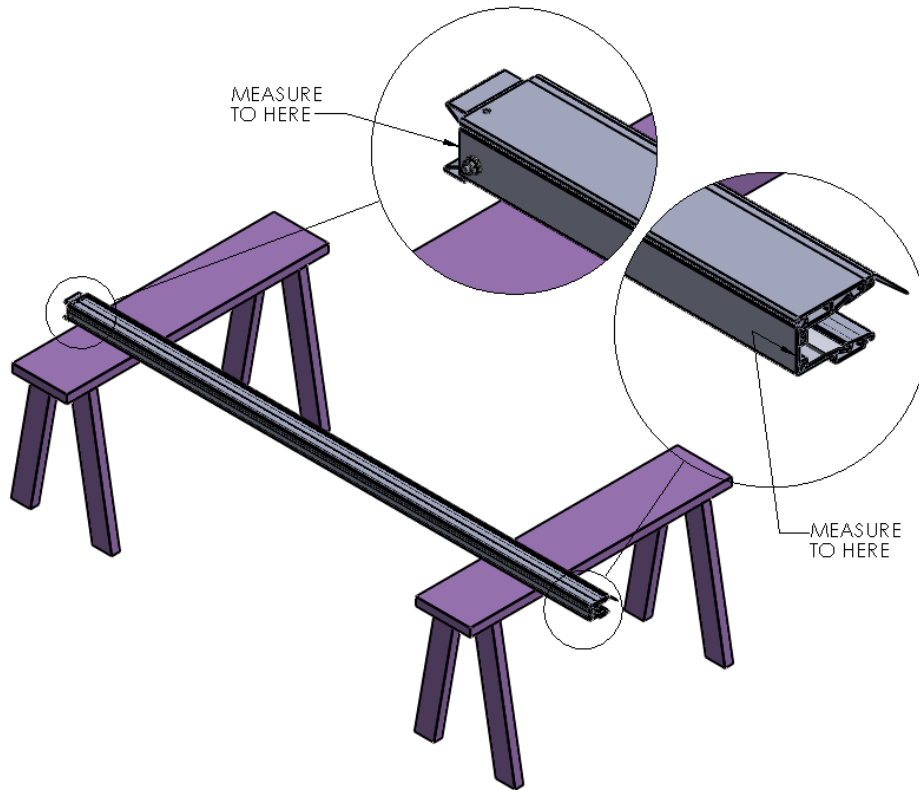
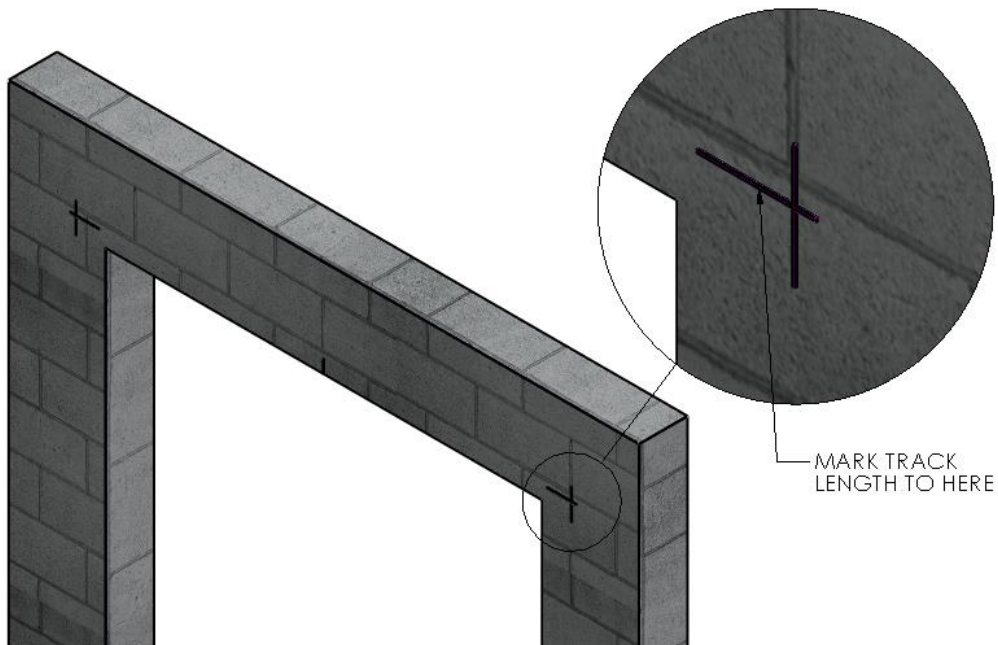

Figure 4 MEASURE TRACK HEIGHT
Figure 5 MARK TRACK HEIGHT
5. Set one of the Vertical Track Assemblies on your work surface and measure its overall length. Do not include the Transition piece in your measurement. Add $\frac{1}{4}$ " to this number and take note. This is the height dimension needed to mark the location of the Header Bracket's bottom edge. With that number, mark a horizontal line on each side of the opening that intersects the previously drawn vertical line. (Figure 4 MEASURE TRACK HEIGHT) (Figure 5 MARK TRACK HEIGHT)